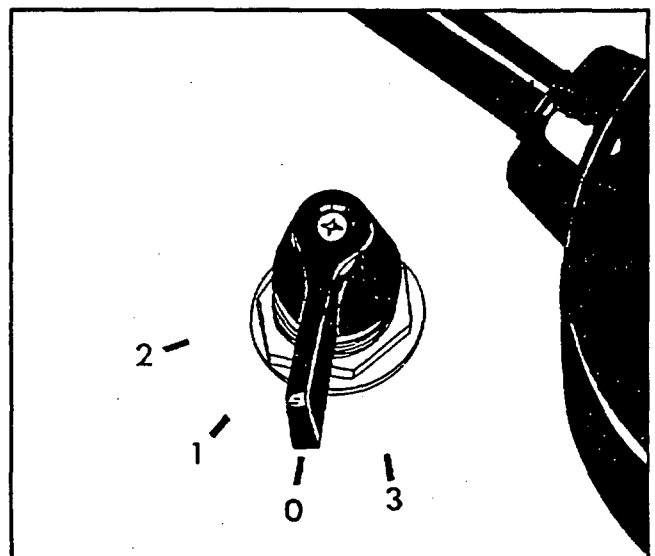

Fig. 8 - Starter and Thermostat Start Switch
6. **Starter and Thermostat Switch** - This switch controls the starter and thermostat (Starting Aid) circuits. This switch has 4 positions as shown in Fig. 8. The circuits are controlled as shown in the chart at the top of the following page.